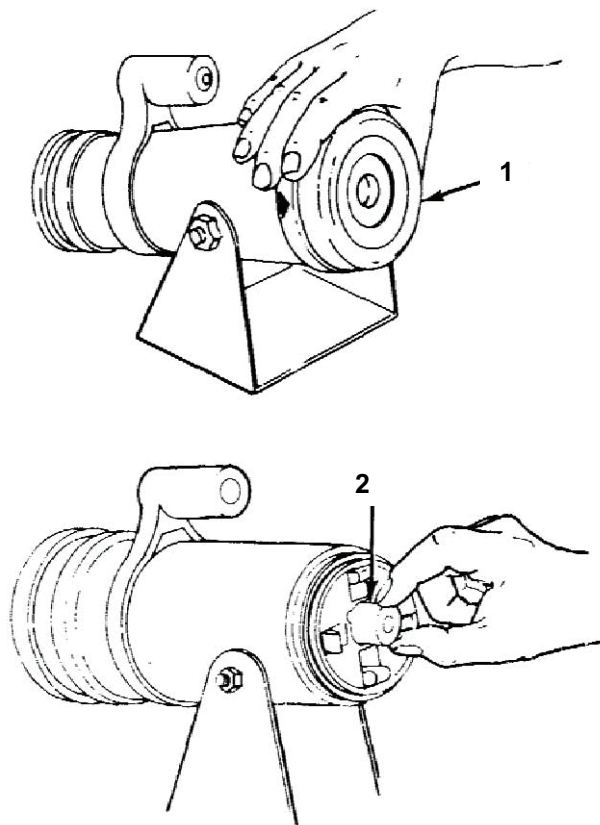

Figure 3. Pneumatic Crimper
5. Remove pneumatic crimper die retaining ring (Figure 3, Item 1) and crimper die.
6. Refer to WP 0031 and select the proper pin/socket locator (Figure 3, Item 2). Place locator into crimper so notches in crimper and locator align.